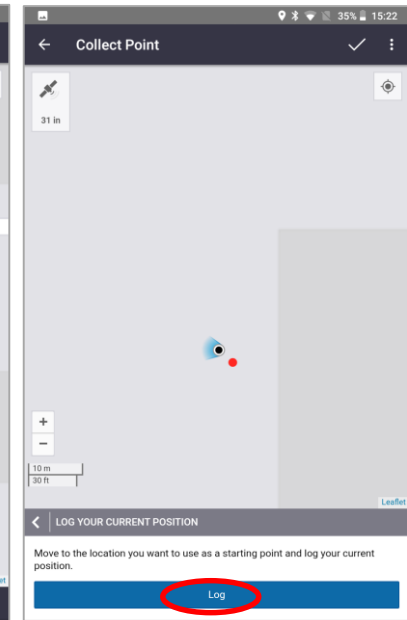

Figure 8
8. Tap the **Log** button to establish the location you are taking the Offset from (Figure 8)